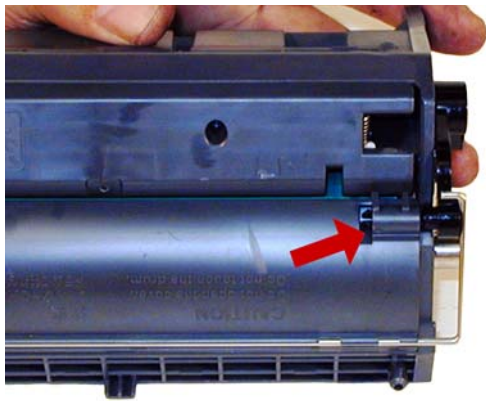

Figure 38
30) Press in on the drum cover spring arm tab to release the cover. Remove the cover. See **Figure 38**